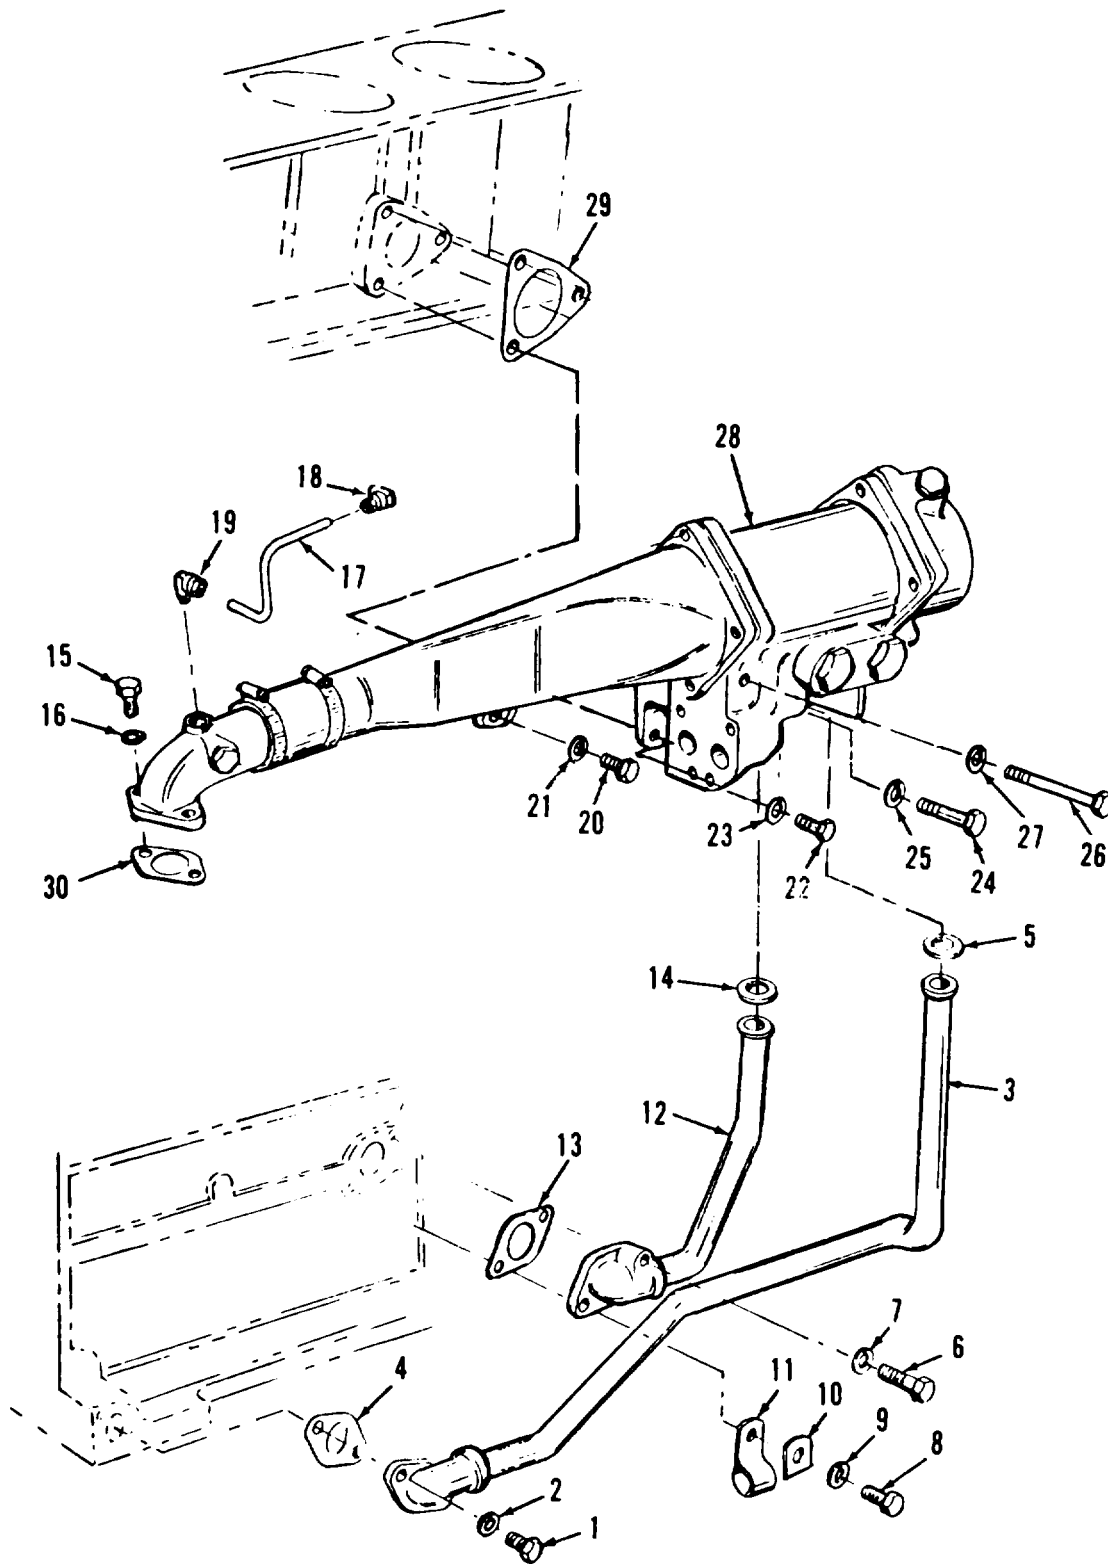

Figure 8-19. Oil cooler group, removal and installation
c. Refer to figure 8-19, and remove oil cooler group in the order of index numbers assigned.
Legend to figure 8-19:
a. Refer to figure 8-19, and install oil cooler group in the reverse order of index numbers assigned.